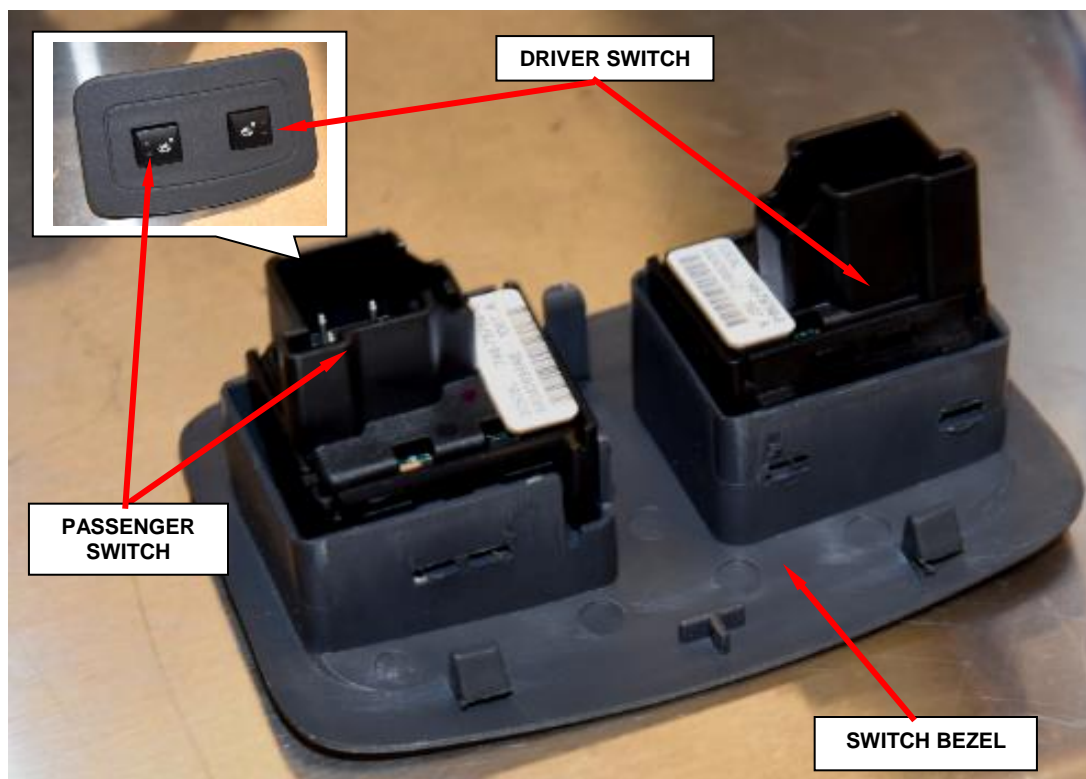

Figure 8 – Heated Seat Switches
13. Install the **NEW** driver and passenger heated seat switches into the **NEW** (supplied) heated seat switch bezel (Figure 8).